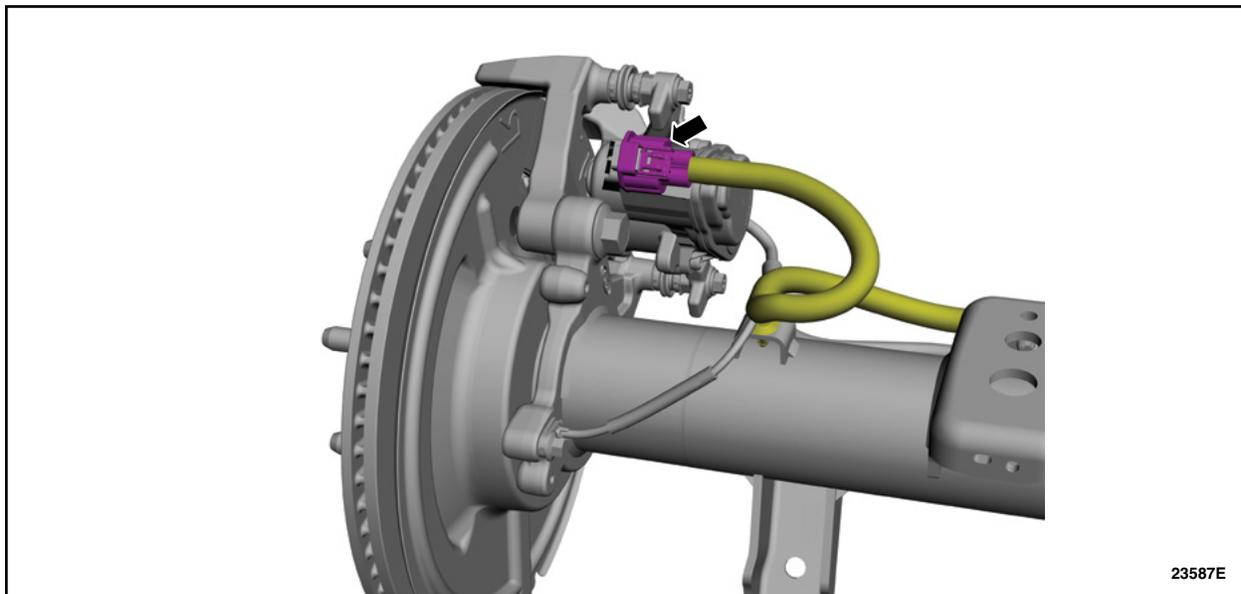

FIGURE 1
4. On both sides, disconnect the Electric Parking Brake (EPB) actuator motor electrical connector and position aside the wiring harness. See Figure 1.
10. On both sides, position back the wiring harness and connect the Electric Parking Brake (EPB) actuator motor electrical connector. See Figure 1.